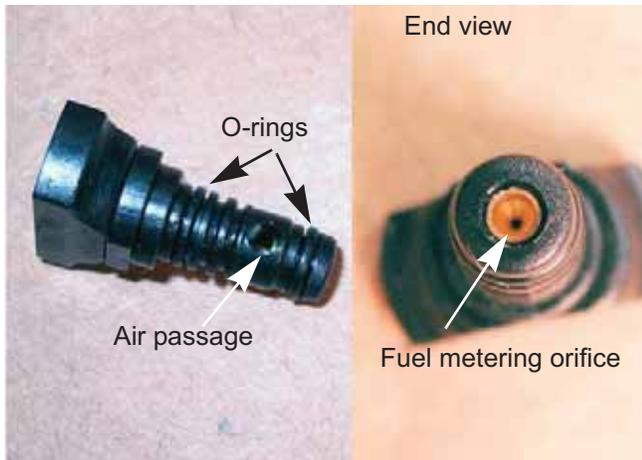

Figure 4.33
12. Examine the metering plug: See Figure 4.33.